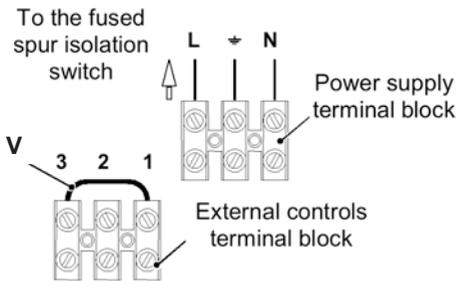

Fig. 6.13
**When connecting any type of external control, the link V in Fig. 6.13 must be removed.**